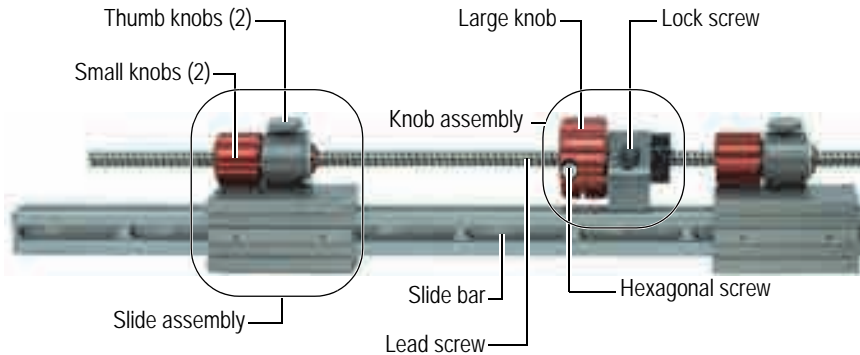

Figure 2-13 Replacing the slide bar and the lead screw
9. If required, reinstall the encoder assembly (see Figure 2-13 on page 34).